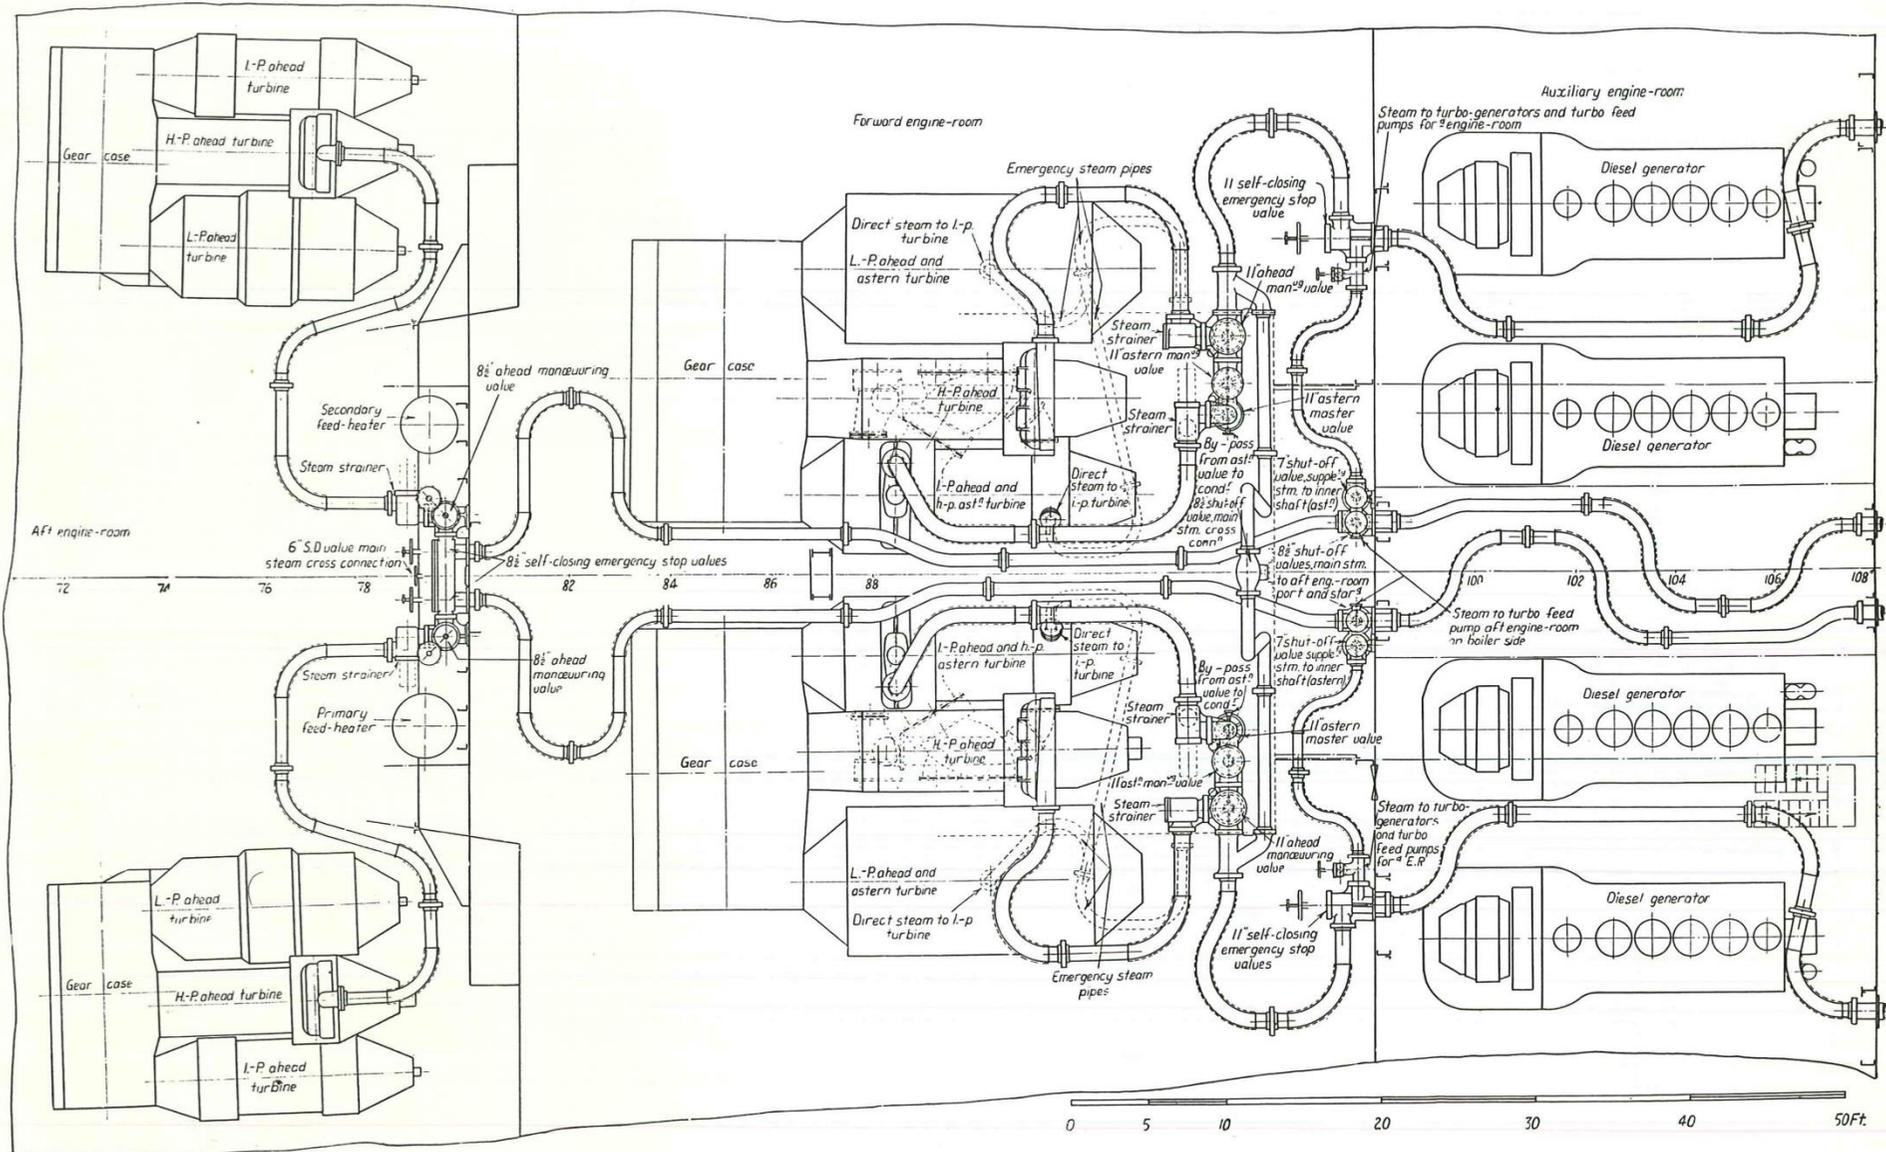

Figure 1 Plan of steam piping in engine rooms
1.5. Main steam piping (Figure 1)